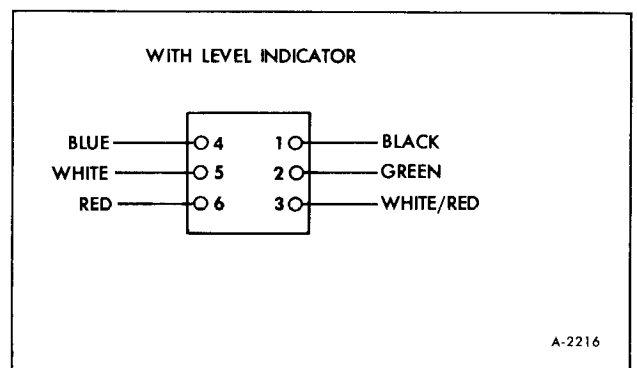

Figure 2—Control Panel Connector
3. Check the connector between the harness and control panel for proper connections. The male and female pins housed within the connector body should be straight and of equal height. They should be firmly attached to their respective wires (See figure 2).
b. Check six pin plastic connector near the control panel (figure 2) and inspect the pins to be certain they are seated properly and making good connection.